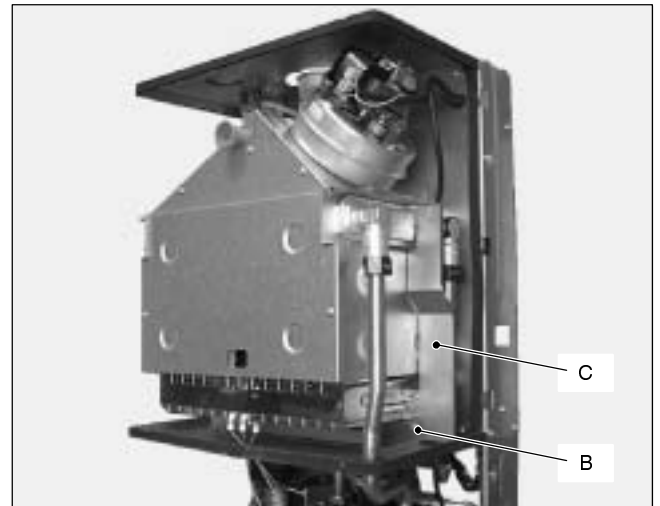

Fig. 80
- 3b For models M90F.28S, M90F.28SR and M90F.32S remove also the plate C (see Fig. 80 on page 39).
- 1b For models M90F.28S and M90F.28SR, remove the screw *B* and the plate *C* (Fig. 80).